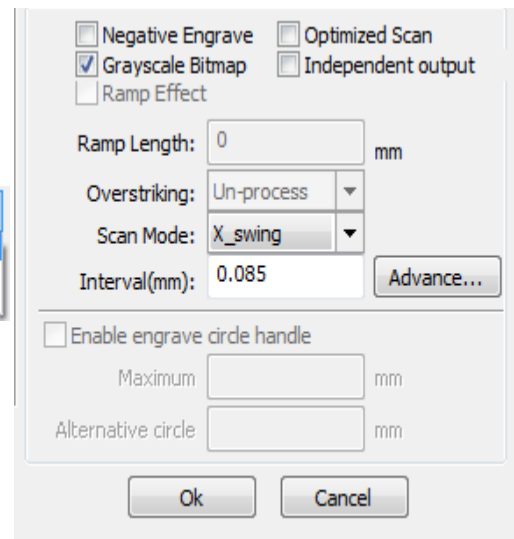

Figure 97 Bitmap Scan
Figure 97 illustrates the Layer Parameter pop-up as it appears when a bitmap object layer is selected and Processing Mode is set to Scan.
**Bitmap Scan:** supports all except for Ramp Effect and the Engrave Circle handle functions that are grayed out in **Figure 97**.